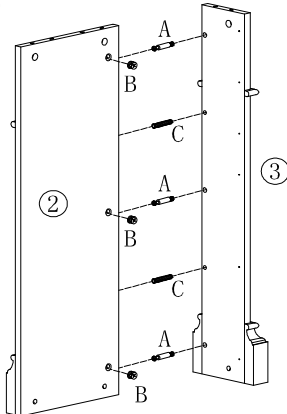

Figure 1
AFTER ASSEMBLED FIGURE 1,INSERT (C)